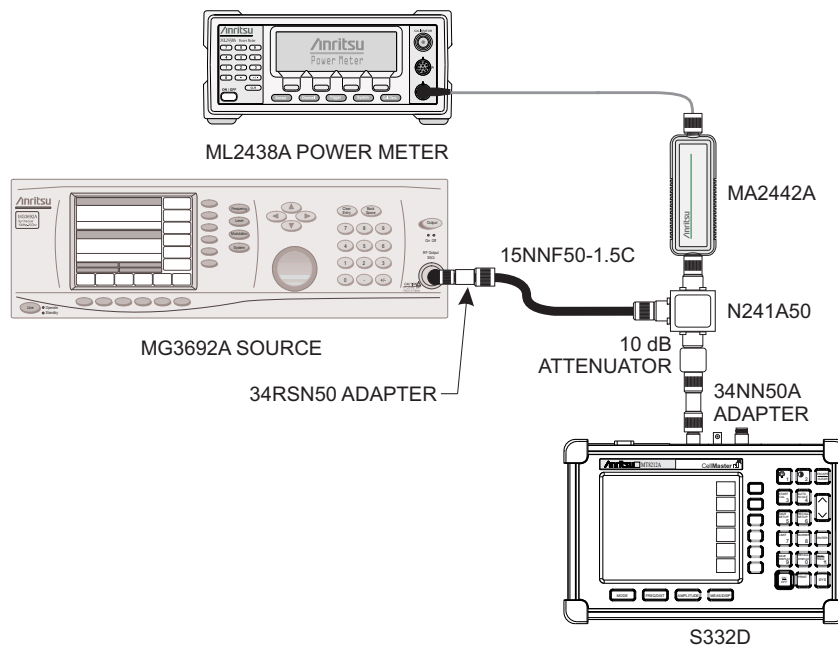

Figure 2. Level Accuracy Test Setup
17. Using the power splitter, coaxial cable, adapters and fixed attenuator, connect the Spectrum Master to the signal source and the power sensor as shown in Figure 2.
3. Using the power splitter, coaxial cable, adapters and fixed attenuator, connect the Spectrum Master to the signal source and the power sensor as shown in Figure 2.